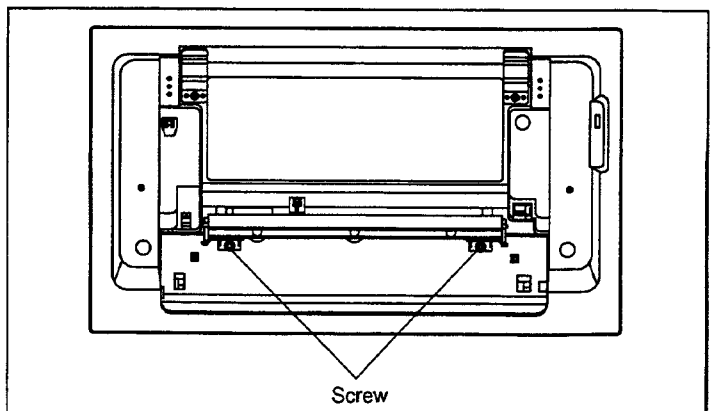

Fig. 5-13
- 5) Remove 2 screws shown in Fig. 5-13.